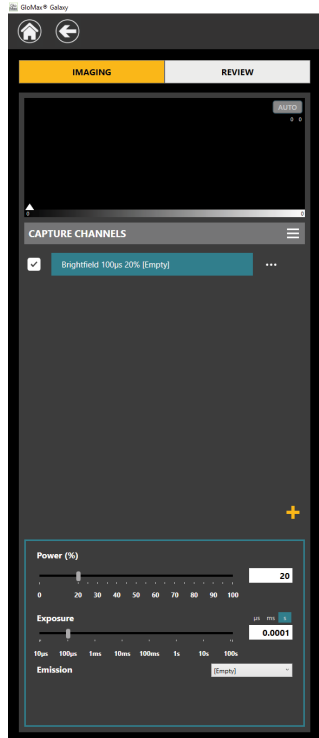

Figure 11. Selected capture channel.
7. Select the **Start** button to start image acquisition and display a live-view image. The live-view image will be generated using the settings of the selected (highlighted in blue) capture channel (Figure 11).